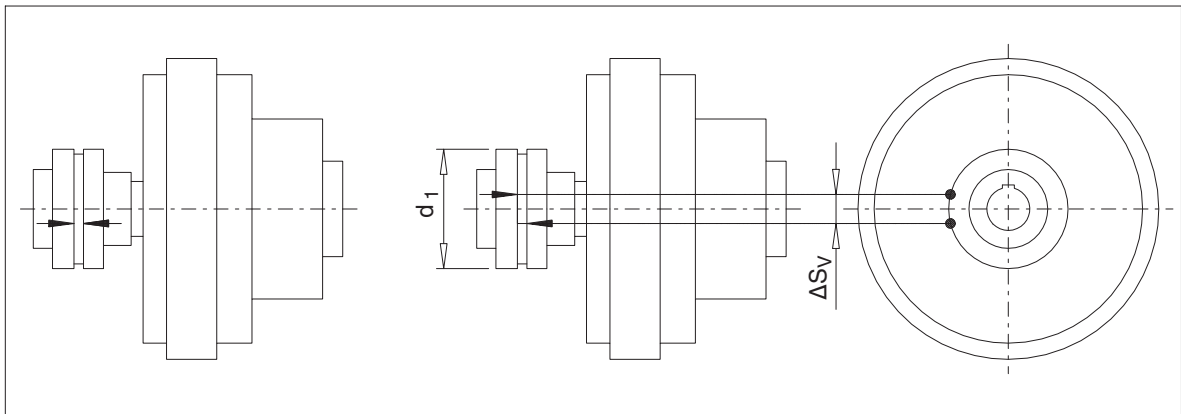

Fig. 13: Maintenance interval of the N-EUPEX add-on coupling
The flexible elements (12) can continue to be used up to a specified wear limit. To assess wear, the permitted torsional backlash, converted to the chord dimension ΔS_V on the outer coupling diameter, is shown in table 9. To obtain the dimension ΔS_V , one coupling part is rotated without torque as far as the stop and a mark applied to both sides (see figure 13). If the coupling part is rotated in the opposite direction of rotation as far as the stop, the marks move apart. The distance between the marks is the chord dimension ΔS_V . If the dimension ΔS_V exceeds the value in table 9, the flexible elements (12) must be replaced.